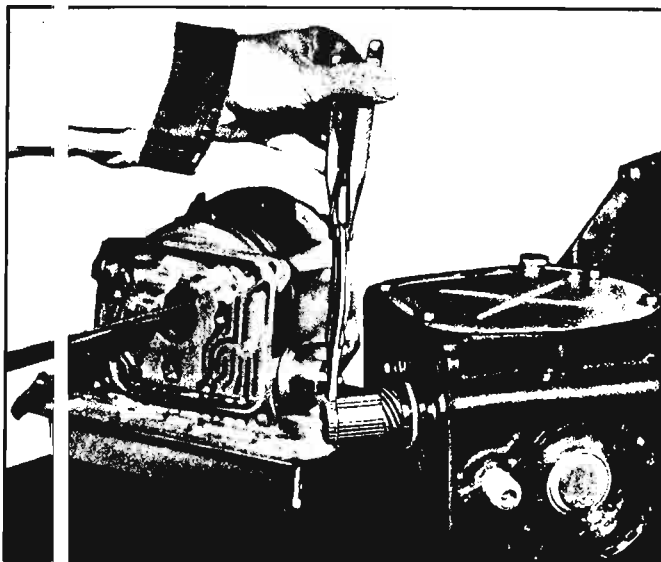

Fig. 6-16—Installing Rear Selective Spacer
- e. Install spacers selected on governor gear (fig. 6-16), then check that proper total thickness has been installed by again measuring with J-8364 as described in step d. If shim stack is